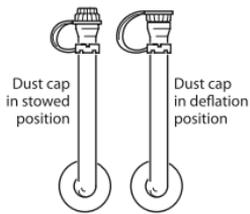
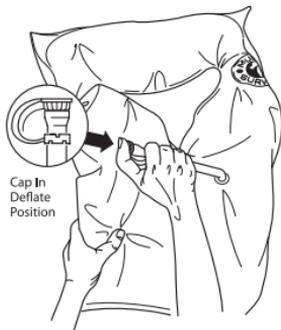

Fig. 1d
Fig. 5
- 4) Check that the oral-inflation dust cap is properly in the stowed position (Fig. 1d)
To deflate the buoyancy cell, reverse the oral-inflation tube dust cap and insert it into the valve or depress valve with fingertip. The dust cap will not lock in the deflate position so it is necessary to hold it in place (Fig.5). Gently squeeze the cell until all air or gas has been expelled. Put the inflation tube dust cap back in its normal position on the oral inflation tube (Fig.1d).
Before repacking, completely deflate the inflation cell. Force excess air out through the inflation tube (Fig. 5). Do not wring cell. Put the inflation tube cap back in the normal stowed position (Fig. 1d).